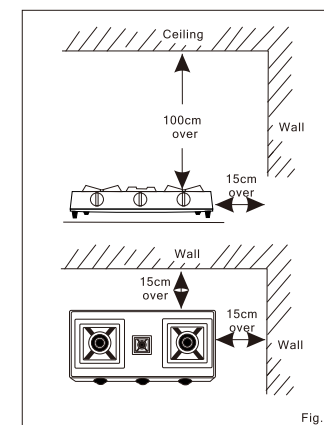

Fig. 14
8. When choosing a place to put the gas cooker,be sure to pick a spot that is firm and level.The gas cooker need plenty of space and air. Allow at least 15cm of space on the sides and 100cm above the unit. (Fig.14) if the space is less than 15cm from the in-flammable walls, be sure to provide a heat insulation board. Also be sure to keep paper, oil, and all other inflammable objects away from the gas cooker.